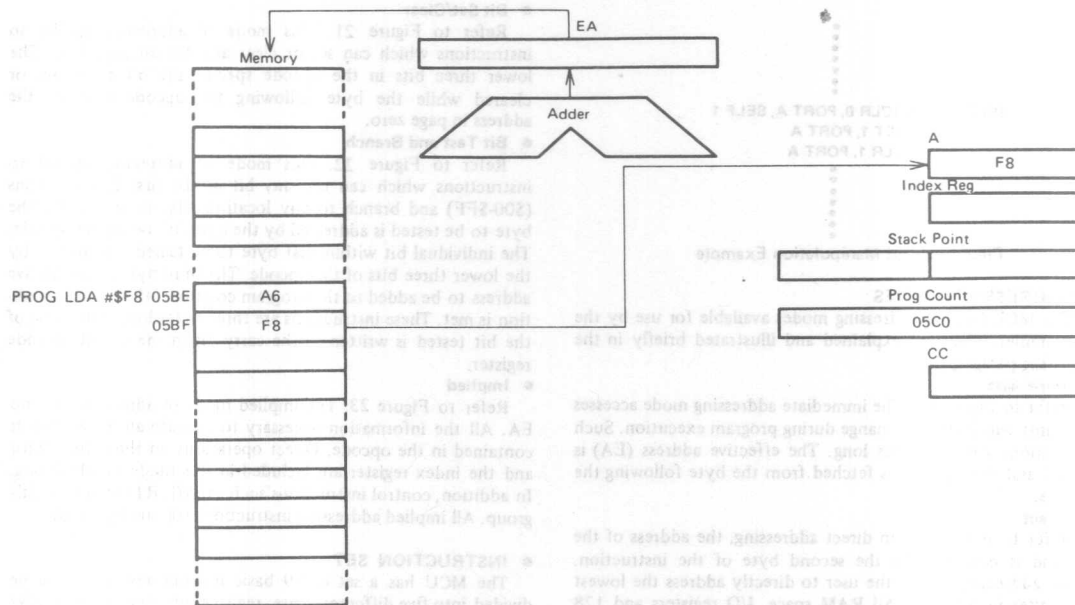

Figure 14 Immediate Addressing Example
Refer to Figure 14. The immediate addressing mode accesses constants which do not change during program execution. Such instructions are two bytes long. The effective address (EA) is the PC and the operand is fetched from the byte following the opcode.